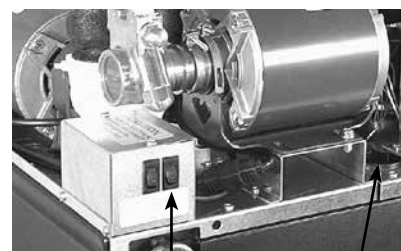

Fig. 3
- Remove top cover. Locate the black plastic water bath fill-plug and remove it. (see fig.3)
- Plug in main power cord and the condenser fan and compressor should start. (see fig. 3) If not, refer to “TROUBLESHOOTING PROCEDURES”.
- Turn on "CARB" switch. (see fig. 3)